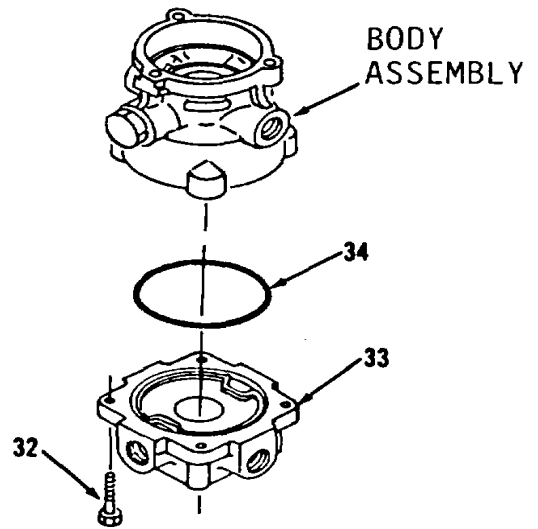

Figure 6-38.
13. Remove four screws (32), housing (33) and preformed packing (34, Figure 6-38) from body assembly. Discard preformed packing (34).